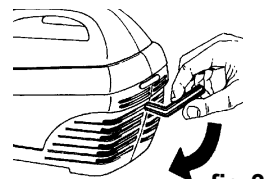

fig 3.
- 3.4.1. If the washer has not been used for a prolonged period turn the motor by hand, with the key provided (fig 3), before switching the machine on. This will release any blockages, deposits or limescale. **Remove the key before switching on!** Taking these precautions before starting will avoid damage to the motor and sealing system.